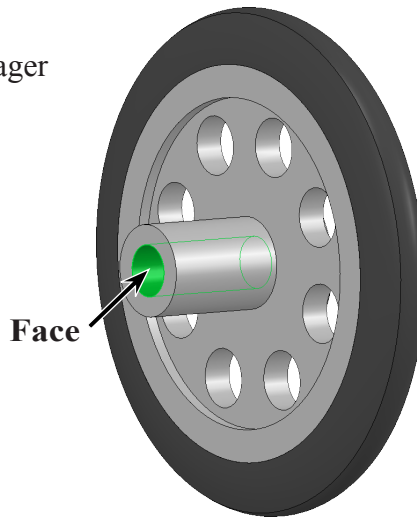

Fig. 6
Step 1. Rotate view slightly to view **inside of rim**, hold down middle mouse button (wheel) and drag to rotate view, **Fig. 6**.
Step 2. Click the **inside cylindrical face of axle hole** to select it, **Fig. 6**.